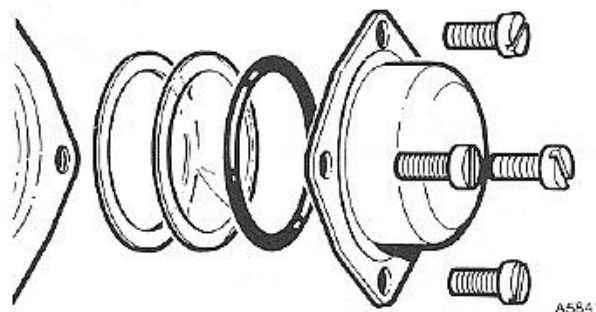

Fig 10. The delivery air bottle, type AUF300/AZX1300 pumps.
- 21 Place a sealing washer in the bottom of the delivery air bottle recess, place the plastic diaphragm (dome side downwards) then add the 'O' section sealing ring and tighten down the cap with its four screws (see Fig. 10).